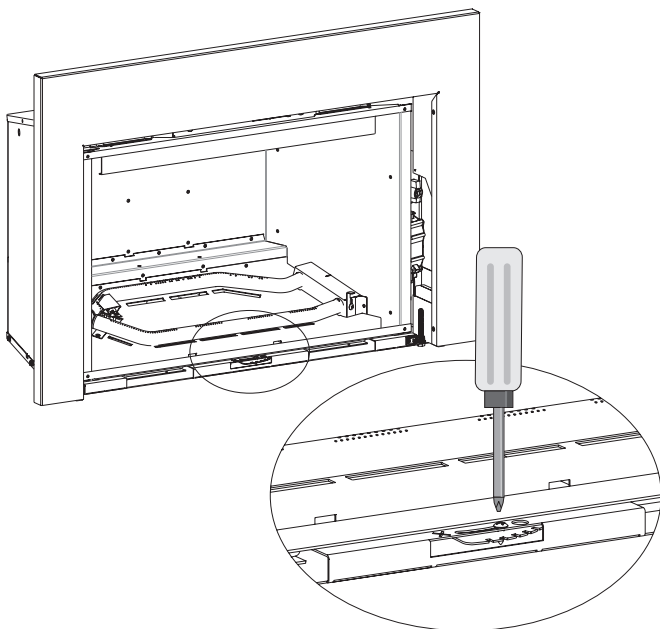

Figure 8 - Rear Burner Air Shutter
9. Loosen rear air shutter screw and rotate handle to the left until 1/8 inch opening is achieved. Tighten screw. **See Figures 8 and 9.**